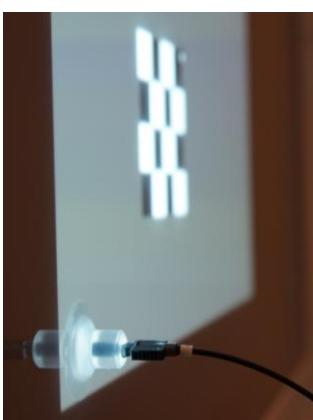

Figure 17: Placement of the photodiode on the screen.
- Position and attach the photodiode over the white square in the lower left corner, see Figure 17. During the experiment, this square will be white when the stimulus comes on the screen and will be background color when only the fixation is on the screen.
- Position and attach the Stim2 photodiode over the white square in the lower left corner, see Figure 17. During the experiment, this square will be white when the stimulus comes on the screen and will be background color when only the fixation is on the screen.